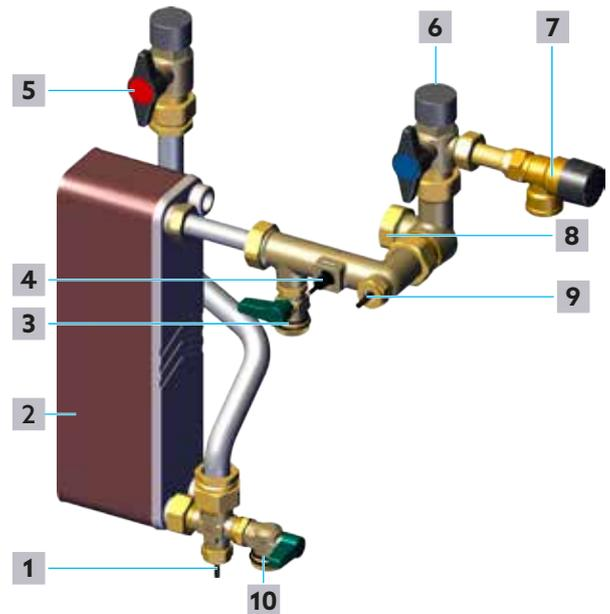

Fig. 4: Potable water circuit
- 3 Slowly close the shutoff ball valve for potable water (hot) (position **5** in Fig. 4 on page 16).
- 4 Slowly close the shutoff ball valve for potable water (cold) (position **6** in Fig. 4 on page 16).
- 5 Unscrew the cap of the fill and drain ball valve for potable water (hot) (position **10** in Fig. 4 on page 16).
- 6 Connect the drain hose for potable water to the fill and drain ball valve for potable water (hot) (position **10** in Fig. 4 on page 16).
- 7 Open the fill and drain ball valve for potable water (hot) (position **10** in Fig. 4 on page 16).
- 16 Close the fill and drain ball valve for potable water (hot) (position **10** in Fig. 4 on page 16).
- 17 Slowly open the shutoff ball valve for potable water (cold) (position **6** in Fig. 4 on page 16).
- 18 Slowly open the shutoff ball valve for potable water (hot) (position **5** in Fig. 4 on page 16).